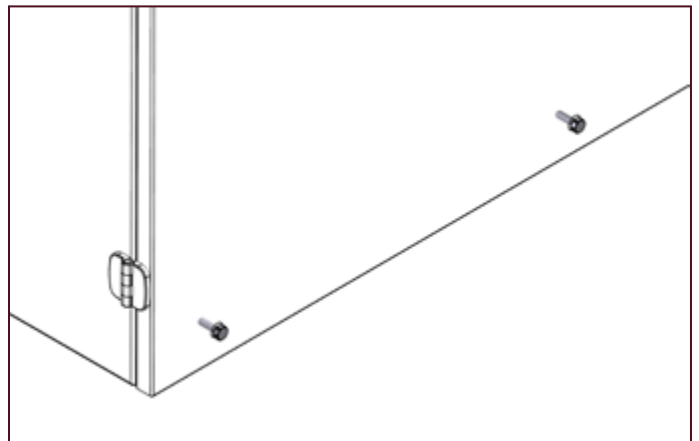

Figure 10-4: Removing the two hex head screws
9. Undo and remove the two hex head screws from along the bottom edge of the boiler right hand side panel. Refer to Figure 10-4. Keep these screws for re-fitting later.